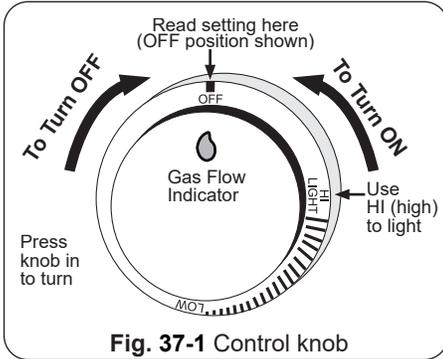

Fig. 37-1 Control knob
**For your convenience and safety, when the control knob is turned to the on position, the gas flow indicator will change from blue to red. (Red indicates gas flow.) See Fig. 37-1.**